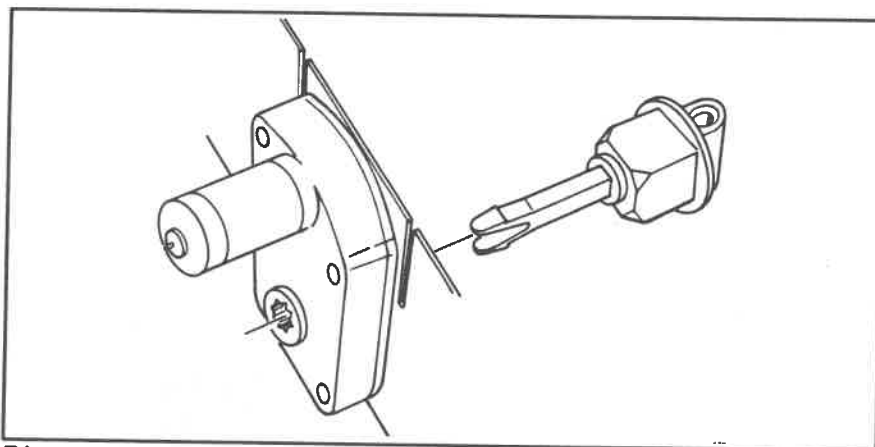

Figure S-9a
*WHEN USED WITH A MOTOR - See Figure S-9a*